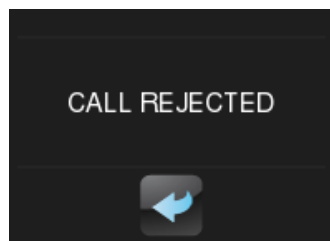

Figure 31 "Call Rejected" message
- **Reject Call:** ends the call and closes the dialog. Also, for a period of time, the Z41 COM that made the internal call will display the message shown in Figure 31. This message can be changed by parameter (see section 3.2.13.2).